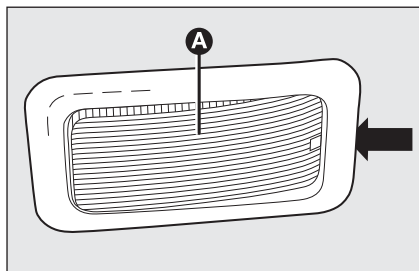

fig. 40
- insert the screwdriver supplied with the car in the point shown by the arrow and remove the ceiling light **A**-fig. 40;